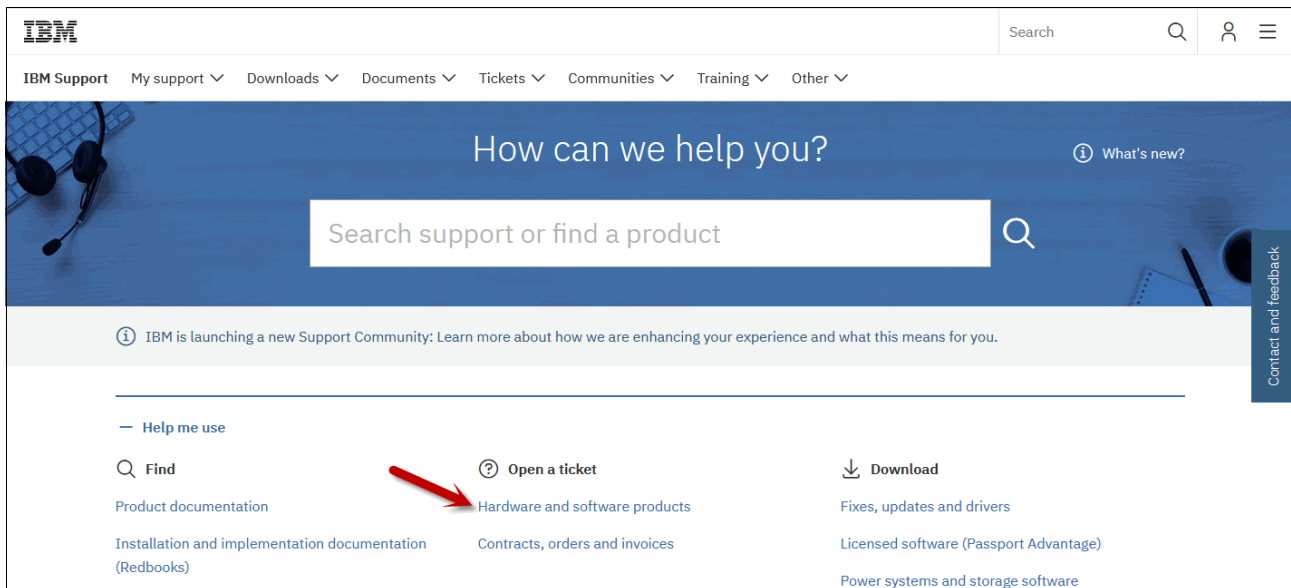

Figure 8-14 Link to Service Request (SR) tool
IBM provides the service request (SR) problem submission tool (the link is highlighted in Figure 8-14) to electronically submit and manage service requests on the web. This tool replaces the Electronic Service Request (ESR) tool.
Figure 8-14 shows the IBM Support portal main page.